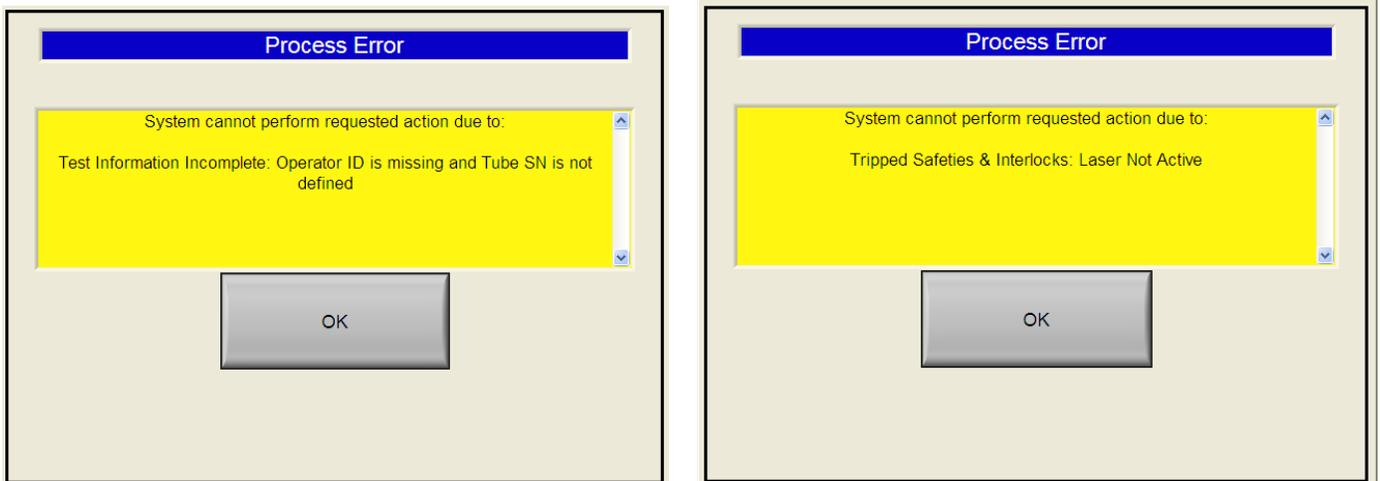

Figure 15 – Process Error Popup
13. If any of the requirements are not met, a 'Process Error' popup display will appear. Examples of various messages that may be displayed within the 'Process Error' popup are shown below (figure 15).